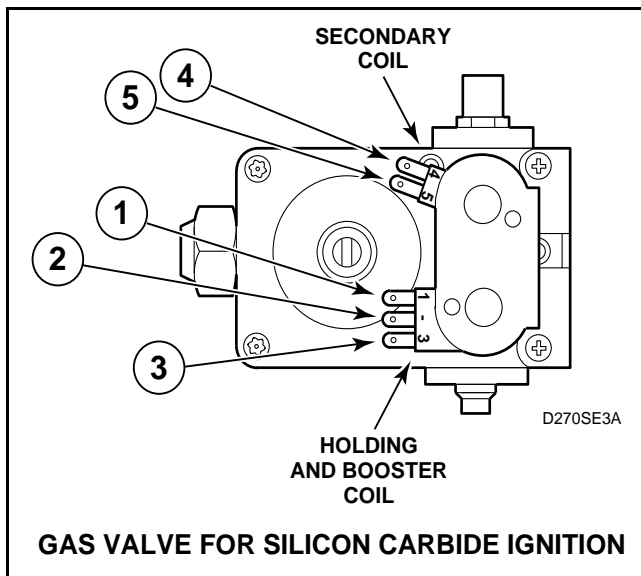

Figure 46
- Remove valve wire harness disconnect block from the holding and booster coil. See *Figure 46*.
- Set test meter to read Ohms and put meter probes to terminals shown in *Figure 46*, and in the following chart.